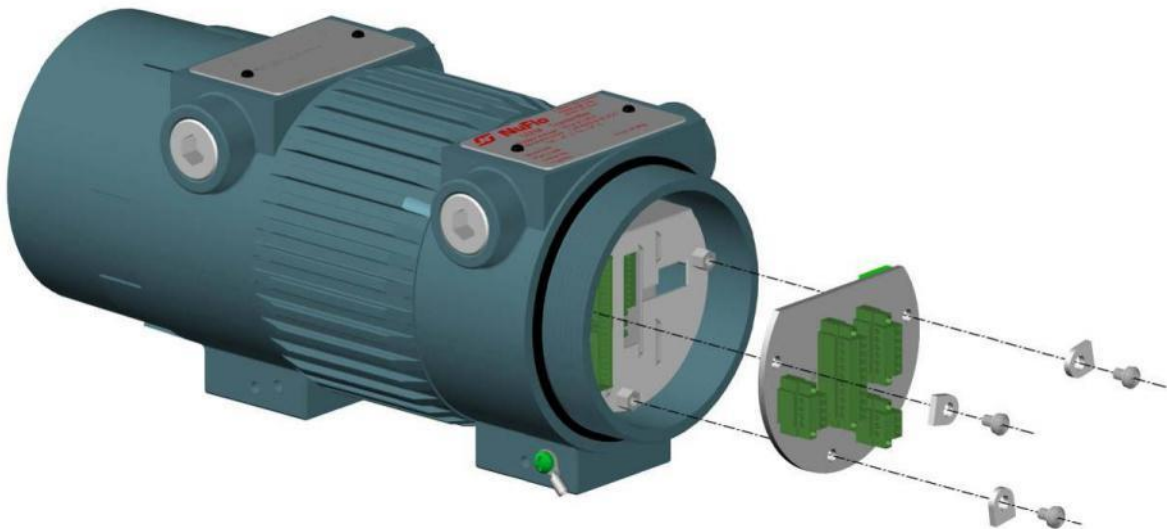

Figure 8.8: Backplane Interface Board (BIB) Removal
4. Remove the three Phillips head screws connecting the BIB to the rear access panel (Figure 8.8).